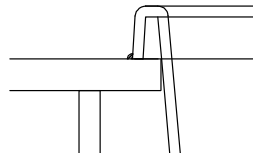

Fig 2.
8. Gently lay the worksurface onto the sink, carefully align the sink rim with the cut out shape with equal spacing on all sides (fig 2).